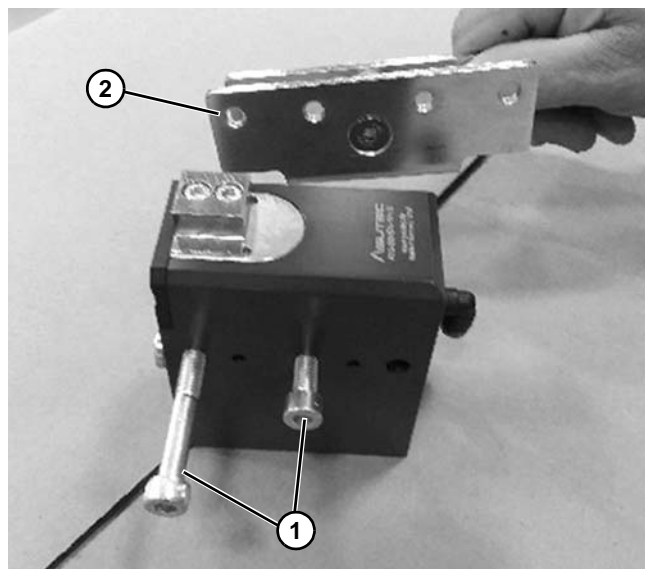

Figure 7
1. Remove two fasteners (**Figure 7, item 1**) and remove bracket (**Figure 7, item 2**).